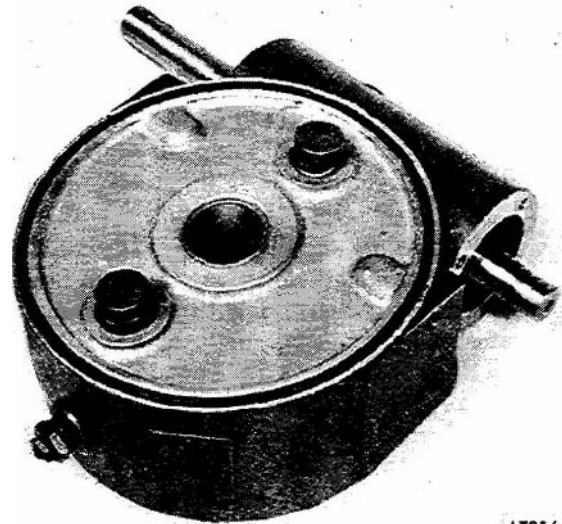

Figure 4-21. Proper installation of brake disc and springs.
(17) Install packing (7), grease fitting (8) and drain plug (22) into gear housing (9).
(18) Install spring (6) and brake disc (5) into gear housing (9) as shown in figure 4-21.